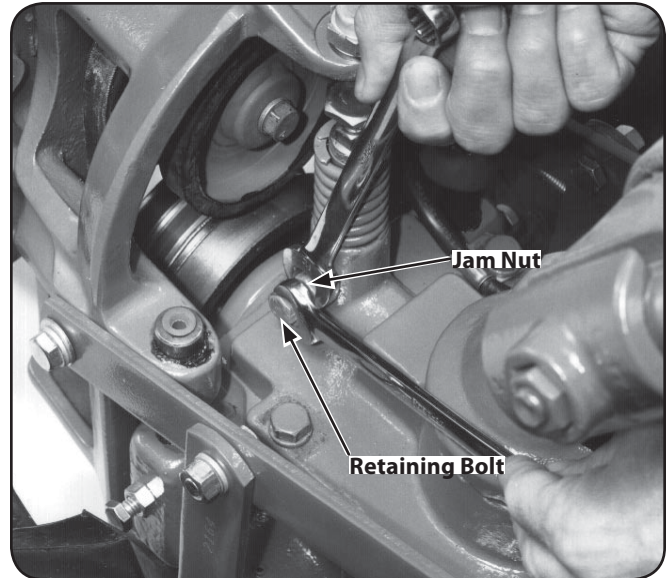

Figure 6-22
2. On the left side of the tiller, put a $\frac{1}{2}$ " wrench on the plunger retaining bolt and another $\frac{1}{2}$ " wrench on the jam nut next to it. See Fig. 6-22.
9. Hold the plunger retaining bolt steady with a wrench while tightening the jam nut against the side of the plunger housing. See Fig. 6-22.